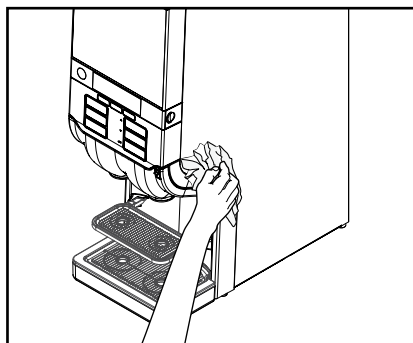

Fig. 33
6. Wipe down the exterior of the dispenser with a damp and clean cloth (fig. 33).